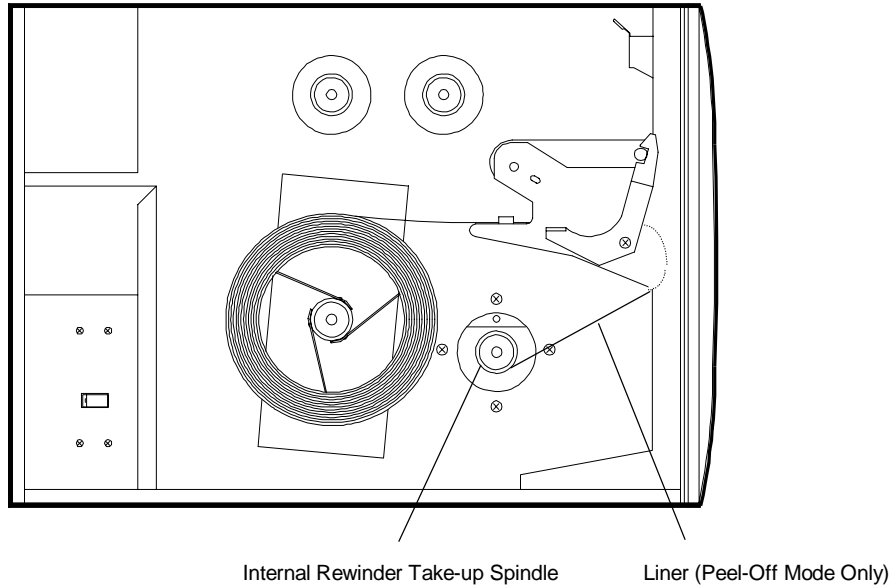

Figure 4-17 Loading Labels for the Internal Rewinder in Peel-Off Print Mode
- Route the label strip downward from the tear bar, around the platen roller, and through the slot in the backing paper guide (see Figure 4-17).
- Guide the label strip from the slot in the backing paper guide onto the take-up spindle (see Figure 4-17).